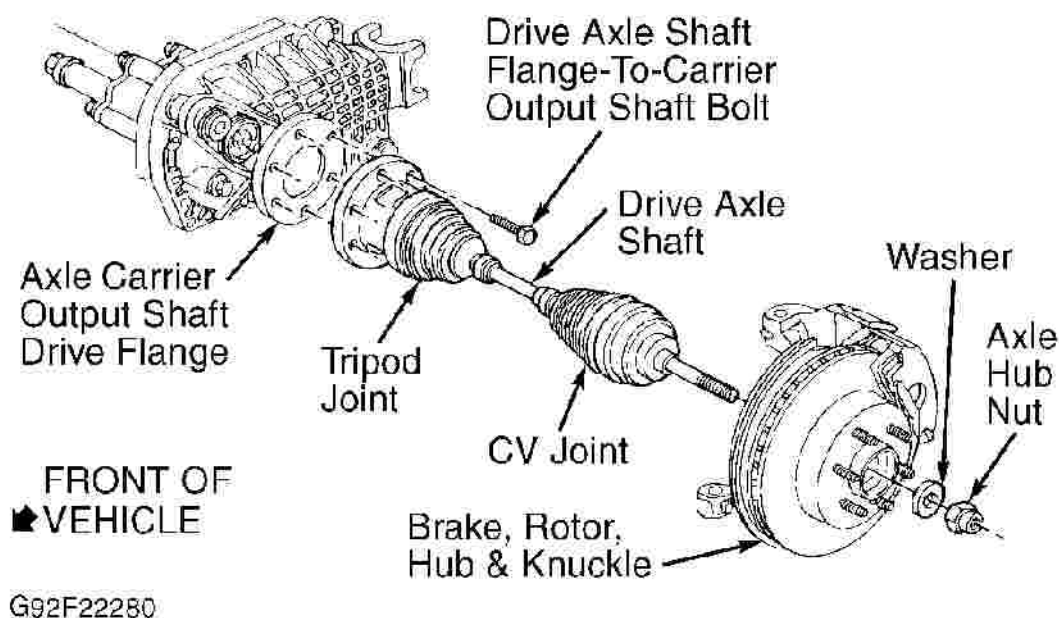

Fig. 3: Left Drive Axle Shaft With Tripod & CV Joints
2. Disconnect left outer tie rod end from steering knuckle using Steering Linkage Puller (J-24319-01). Wire tie rod end aside. Insert a long drift through caliper and into disc rotor vanes to prevent rotation. Remove cotter pin, retainer, axle hub nut and washer from drive axle shaft CV joint. See **Fig. 3** . Loosen 6 drive axle shaft flange bolts retaining tripod joint housing to axle carrier output shaft drive flange.